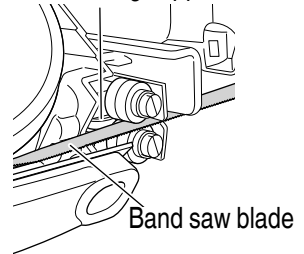

Fig. 26
3. Inspection of band saw blade back ball bearing supports (**Fig. 26**)